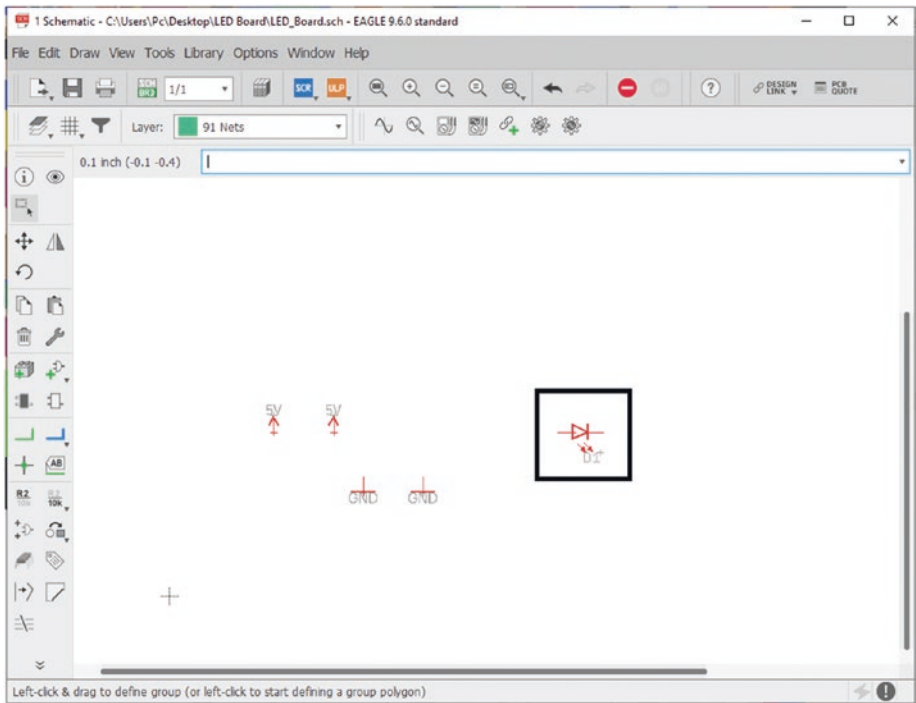

Figure 5-26. Add LED3MM symbol to the schematic window
13. Now if you right-click, you will notice that the LED symbol will turn 90 degrees. Do this once. See Figure 5-26.